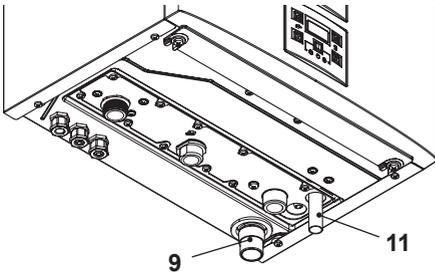

Fig. 6.4
- Connect the pipe 11 (Fig. 6.4) from the pressure relief valve to the safety discharge pipework.
- Fit the condensate drain 9 (Fig. 6.4) into the drainage pipework.